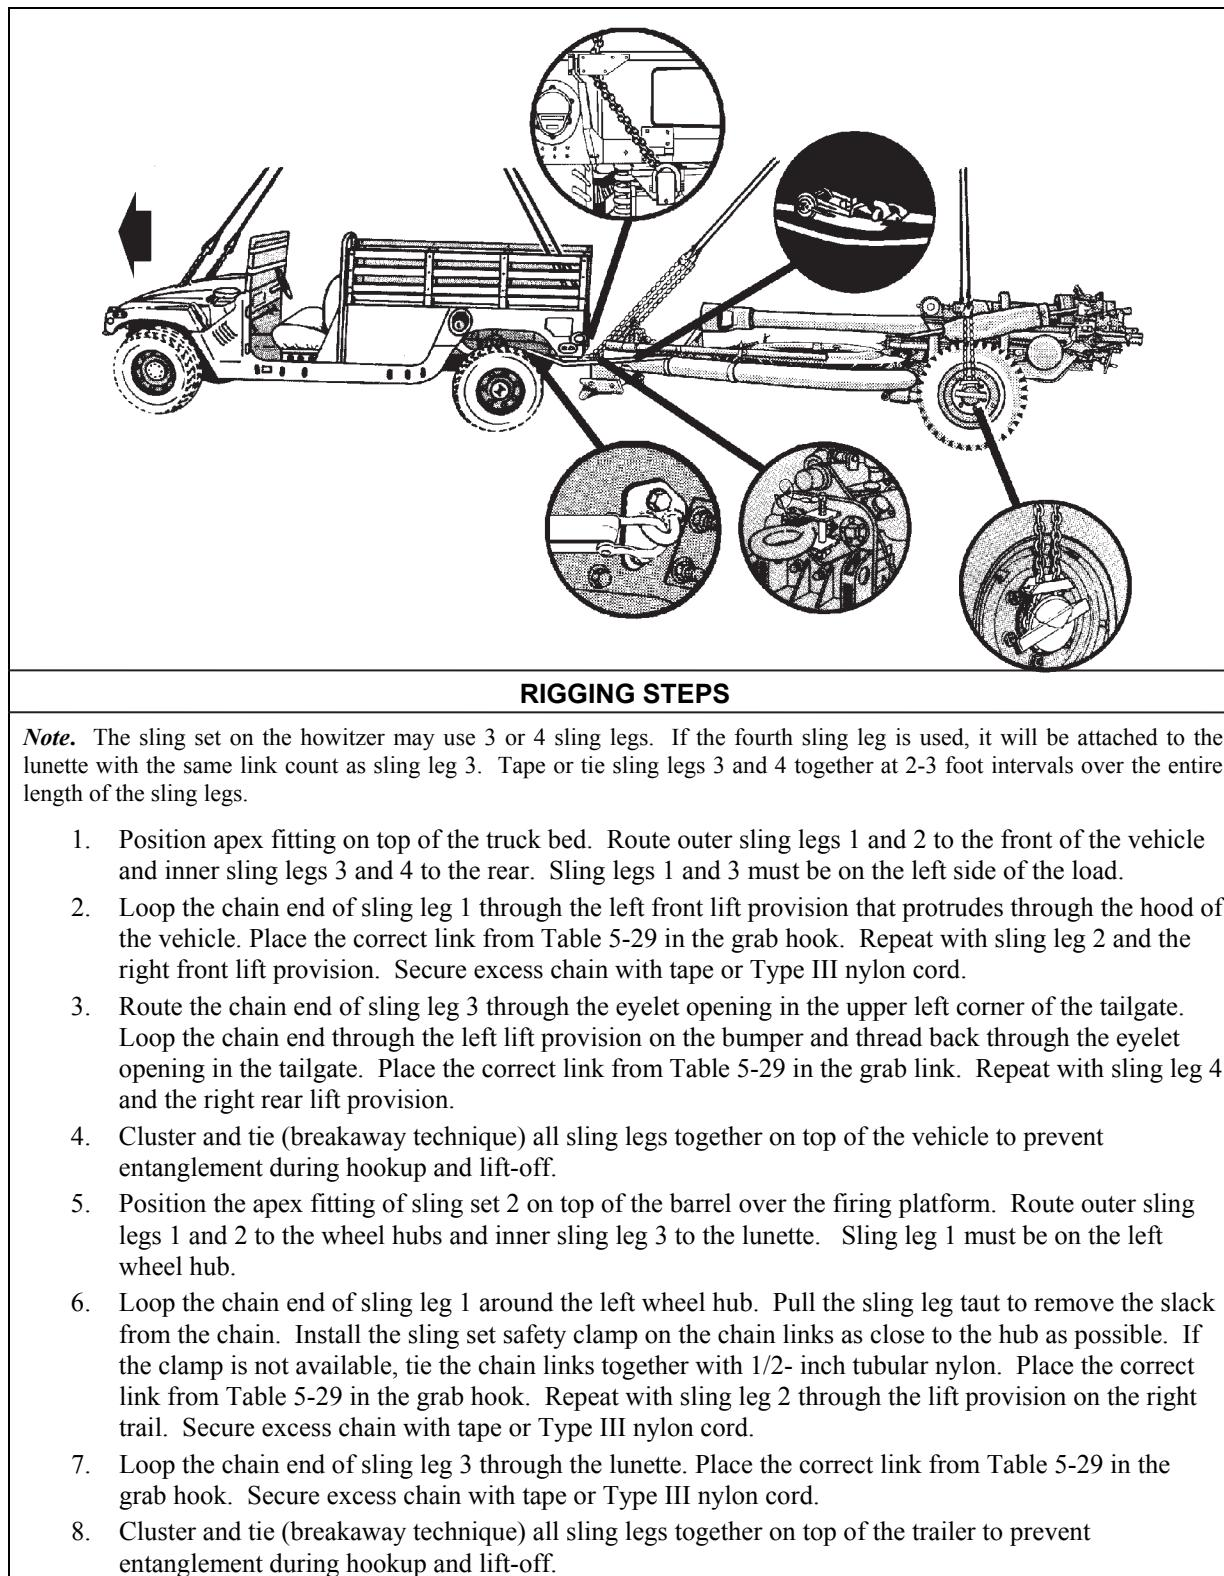

Figure 5-29. M1037/M1097 Truck, Utility, 1 1/4-Ton and M119, 105-mm Howitzer
- **Rigging.** Rig the load according to the steps in Figure 5-29.